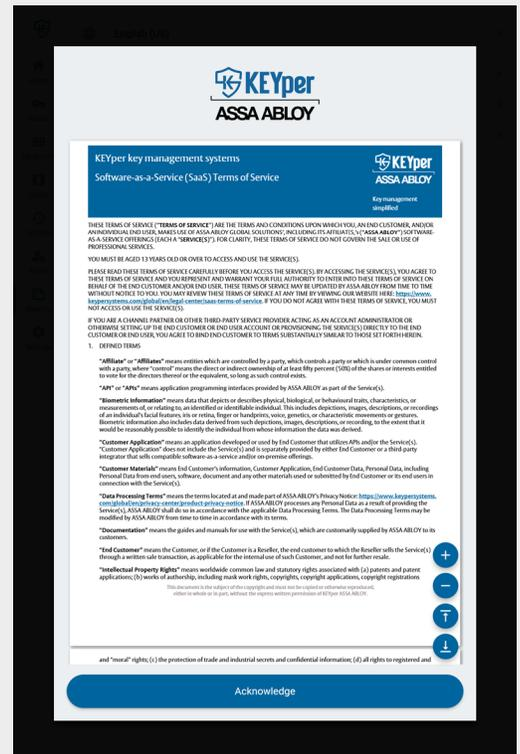

Fig. 21 – Acknowledge the agreements to proceed
5. The first time you log in, you must acknowledge a number of legal documents to proceed, as shown in **Fig. 21**.